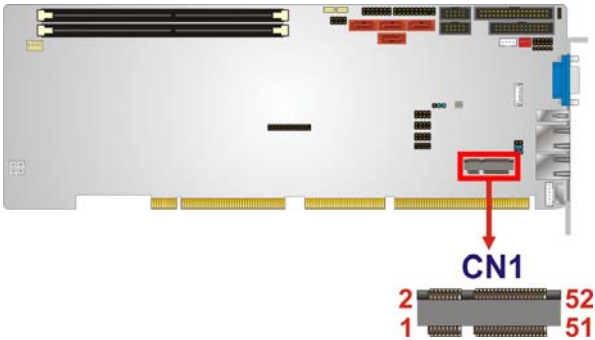

Figure 3-17: PCIe Mini Card Slot Location
- CN Location:** See Figure 3-17